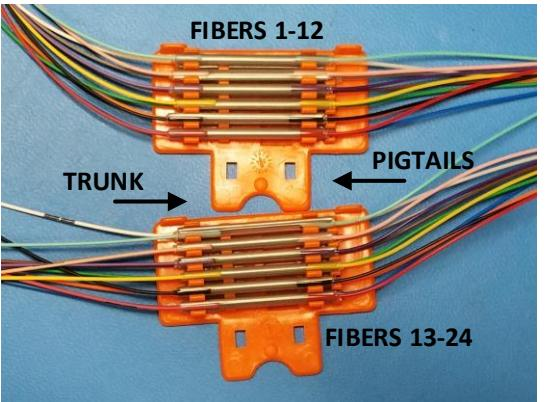

Figure 8
- 4.2 As determined by fiber count, load fibers into the Splice Chips as shown in **Figure 8**.